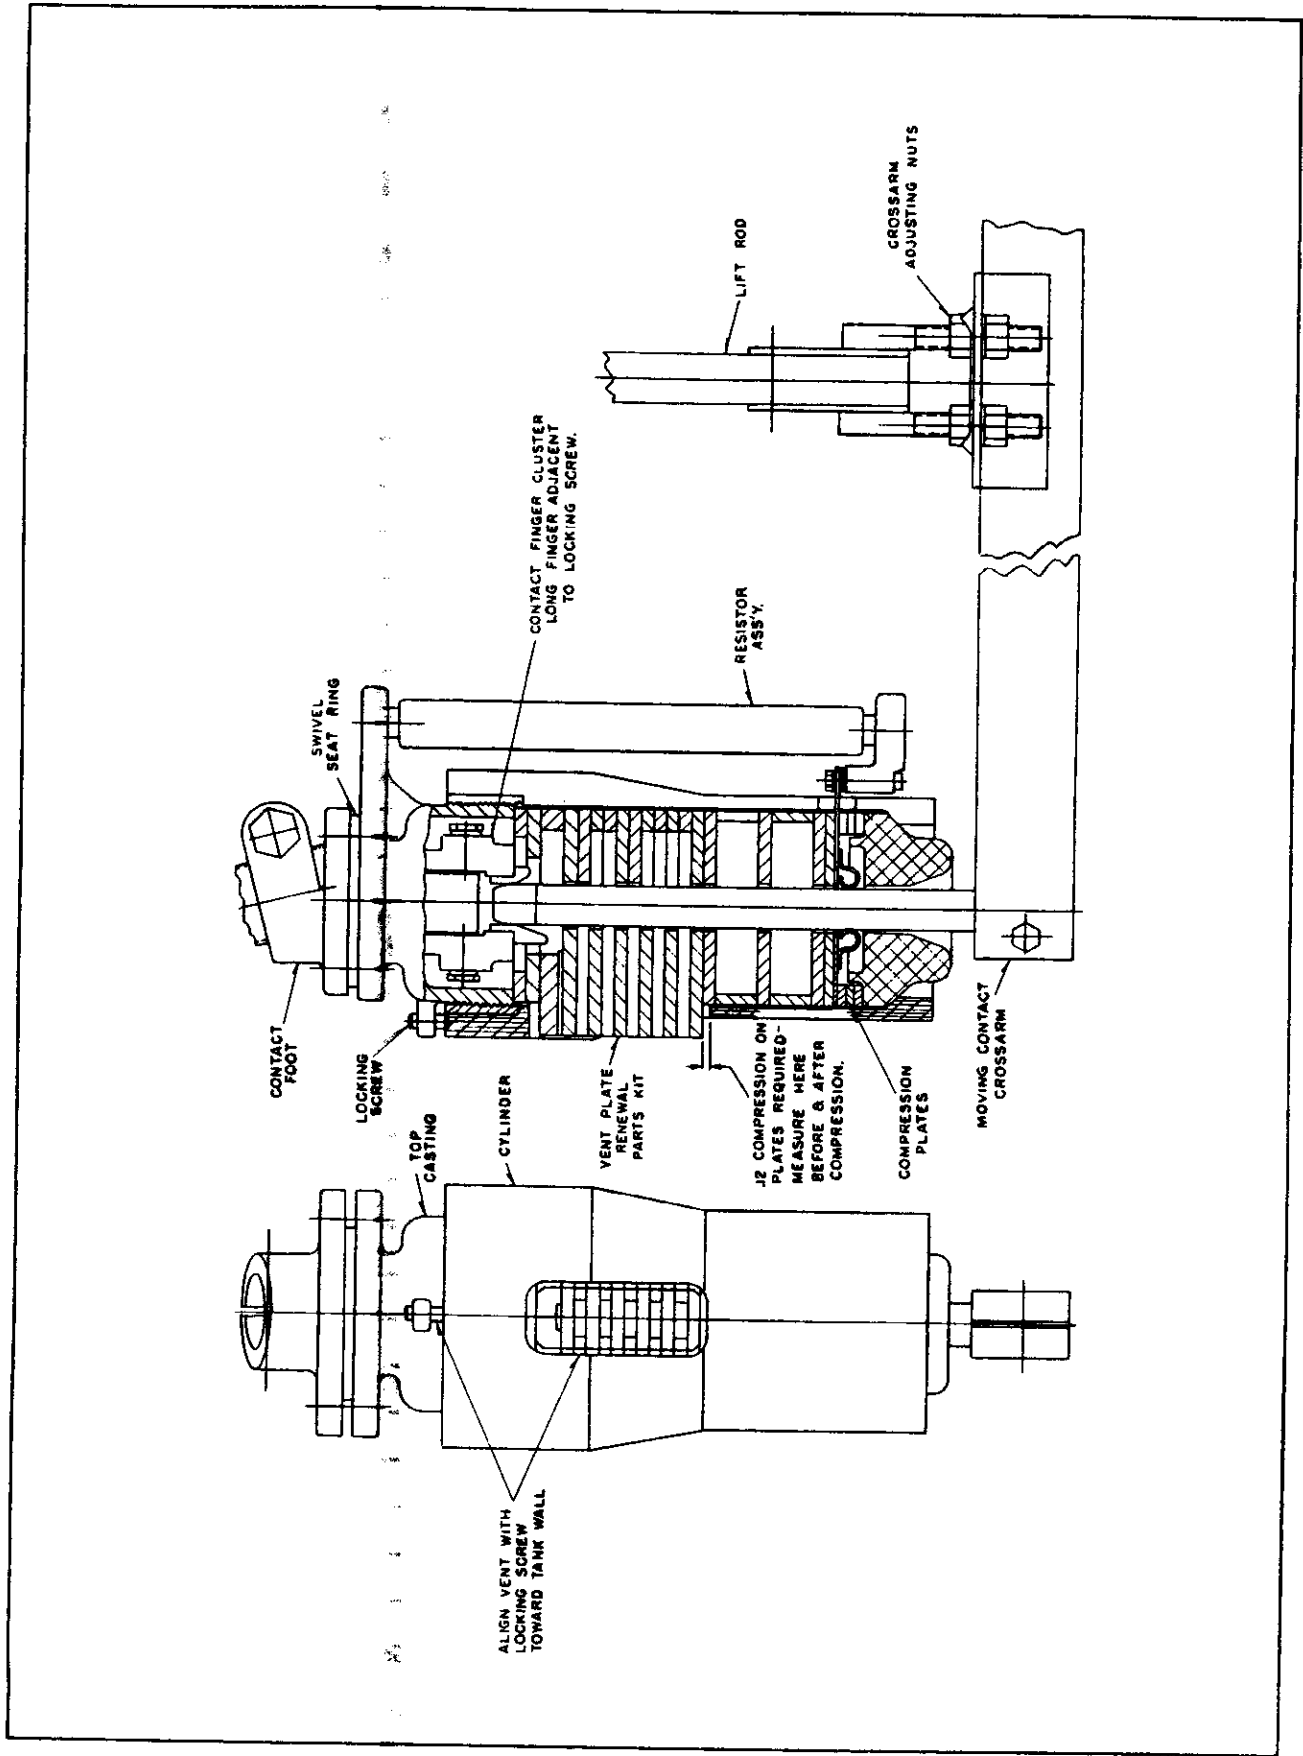

Fig. 5 Interrupter and Contact Assembly
The Westinghouse "De-ion" Grid Interrupter Function - Fig. 5
Interrupter Assembly - Fig. 5
Moving Contact Assembly - Fig. 5
The interrupter cylinder is then assembled to the top casting, by screwing it on until it is snug and then continue with the aid of a strap wrench until the 1/8" compression is obtained, as shown in Fig. 5, and the vents are aligned directly under the set screw. The required effort with a strap wrench is due to the fact that several compressible plates are used at the bottom of the interrupter. The cylinder is then locked in place with the set screw. Again, operate the breaker slowly by hand to make sure there is no binding in the interrupter or lift rod guides. The resistor assemblies are installed after all adjustments are complete.
5. Inspect the stationary contact fingers for erosion by removing the interrupter cylinder. Ref. Fig. 5. Fingers suitable for reconditioning may then be dressed in place. If replacement is required, first remove the top casting from the contact foot and then remove the two bolts on top which hold the finger cluster in place.
6. Remove the vent pieces from the top of the interrupter and examine for erosion. If the hole in the vent pieces exceeds 1.19" diameter, a vent plate replacement kit should be installed. This is a 8-piece kit which includes the two fibre plates and six vent pieces as shown in Fig. 5.